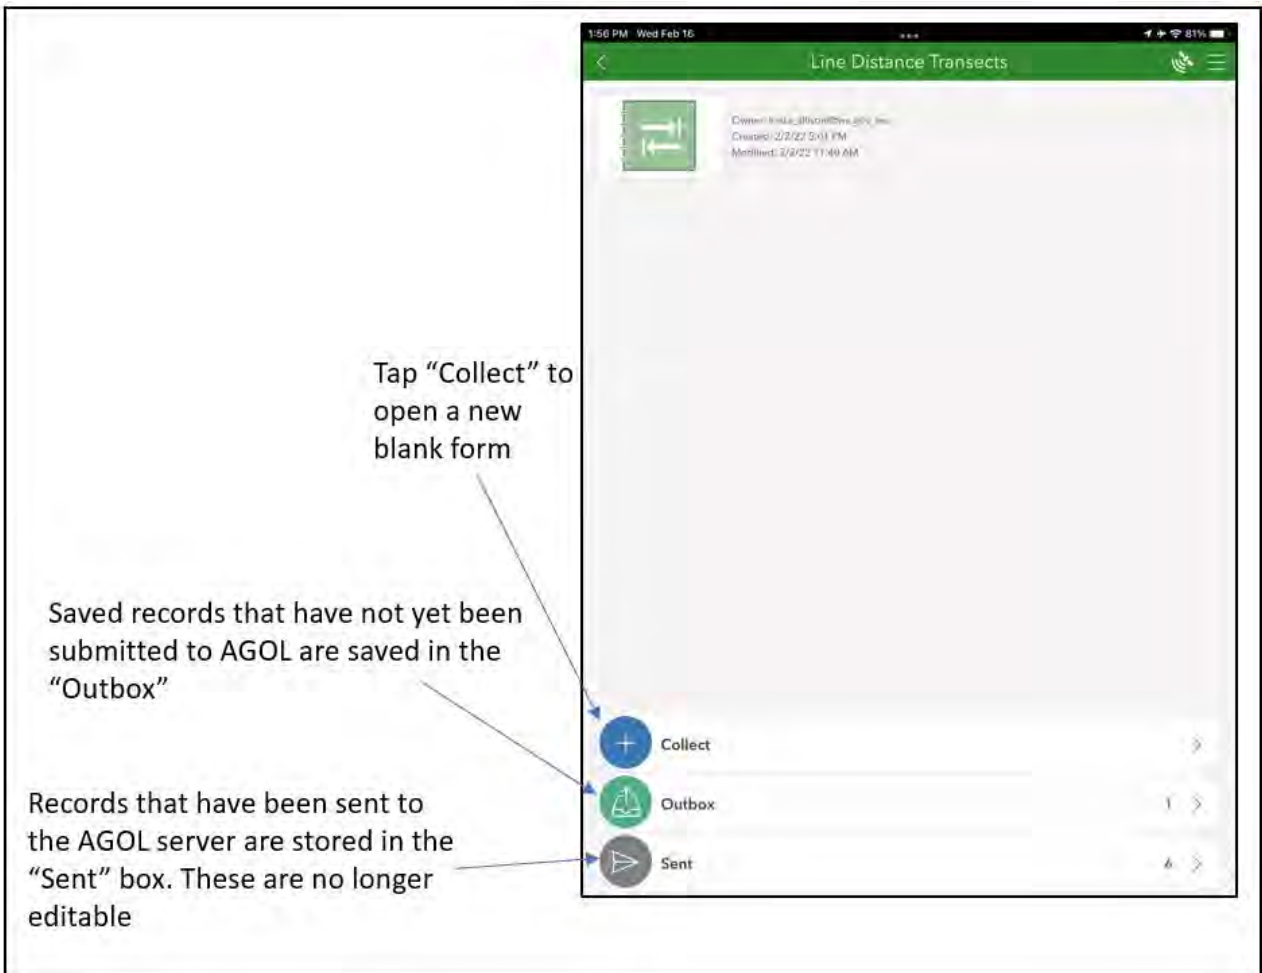
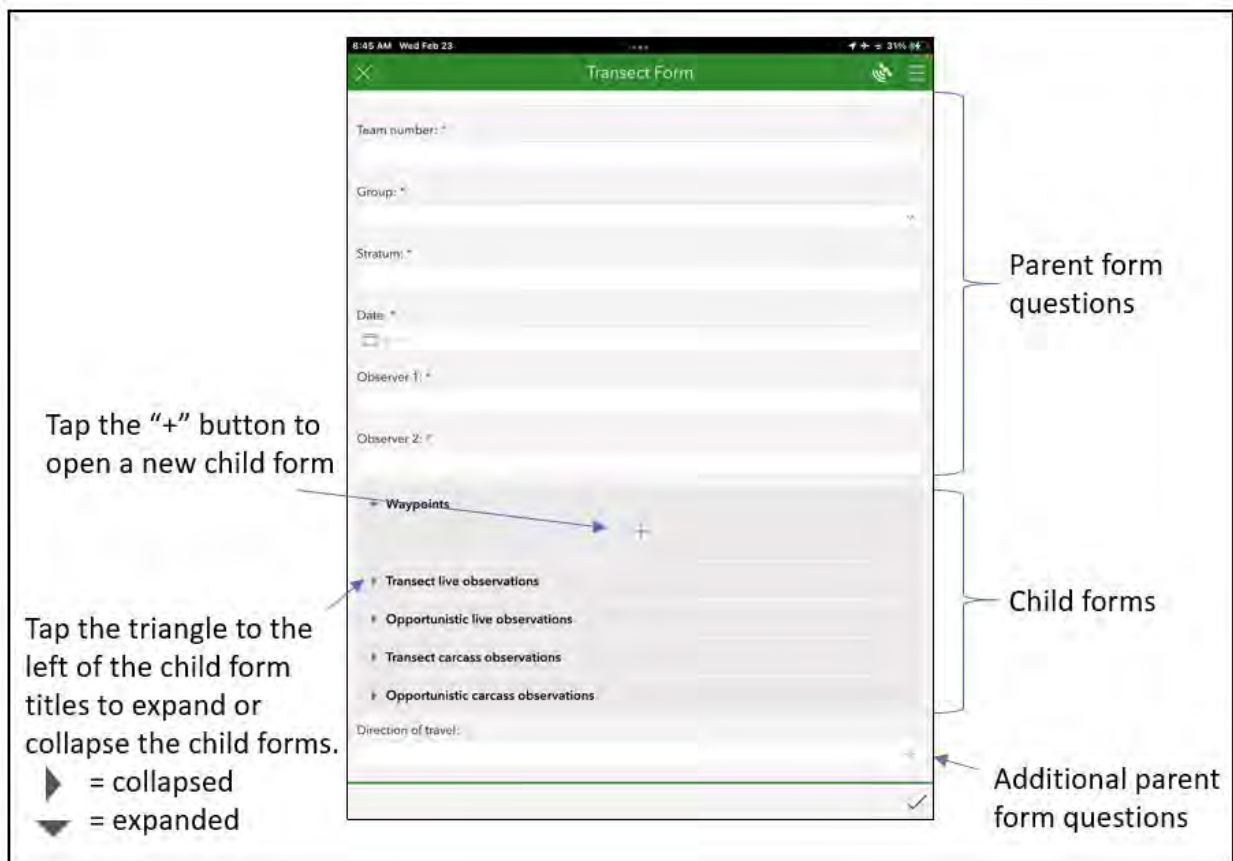
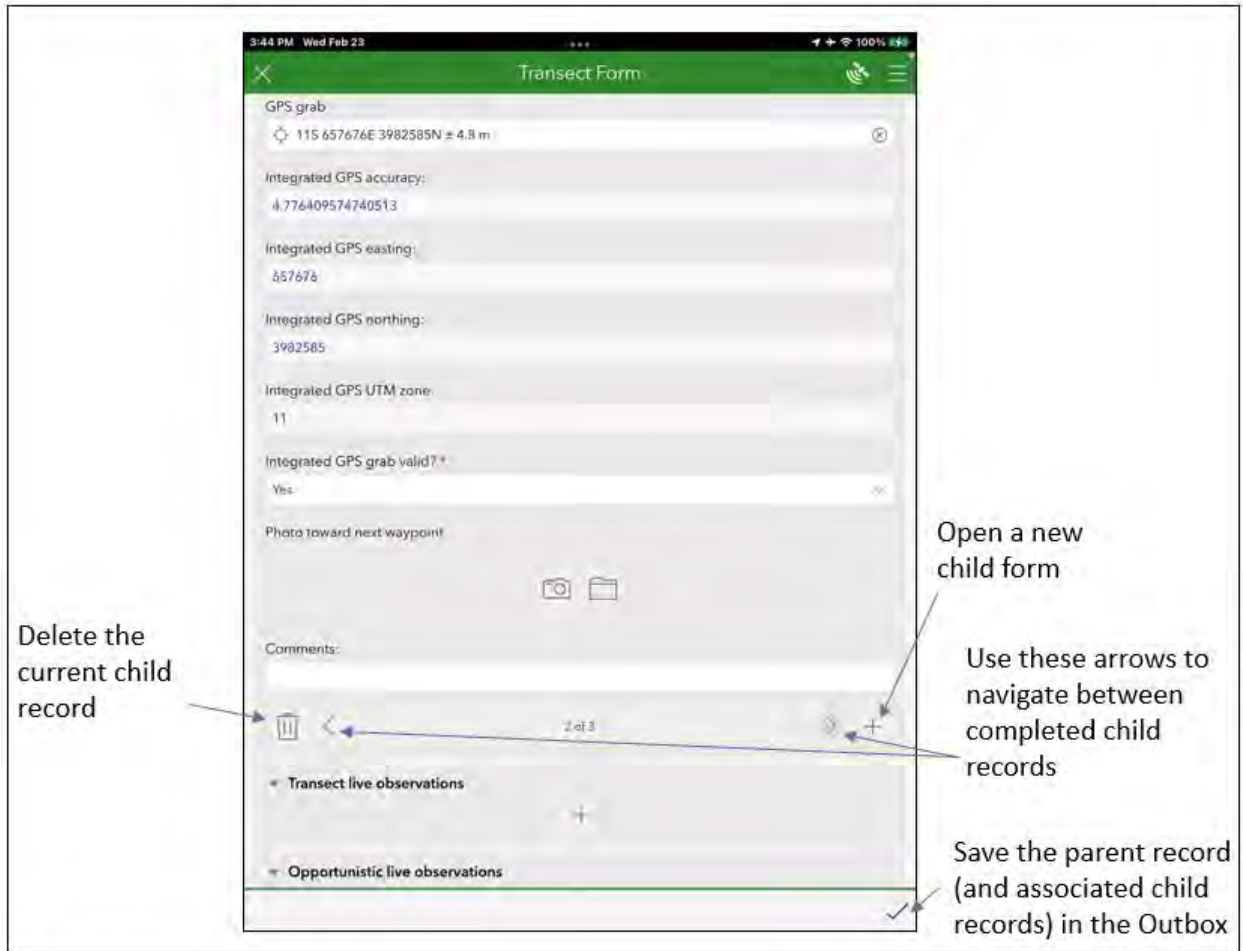

Figure 7-4
Figure 7-5
Figure 7-6
To initiate a parent form, choose it from your My Survey 123 homepage. Once you have the form's landing page tap "Collect" (Figure 7-4). The form is now open and ready for data collection.
**Purpose** - This is the parent form for the transect database (Figure 7-5). The child forms cannot be accessed until this form is opened. Its purpose is to record general information about transects, including names of the observers and condition of the transect (i.e. mountainous, encountering prohibited access, etc.). The transect record is created when team members start hiking to a transect from their "drop off" (or parking) point each morning, and is closed when team members return to the drop off point. In the case of non-standard transects, a new parent form is used for every transect segment following interruptions.
To initiate a child form for the first time, tap on the ⊕ button below the child form title in the parent form (Figure 7-5). If this icon is not visible you may need to expand the child form using the ▸ button to the left of the child form title. To create subsequent records of the same child form (e.g., the next waypoint), you will need to tap the + button at the bottom right of the previously completed child record (Figure 7-6).
Instead, tap the checkmark ✓ on the bottom right of the form to indicate that you are (at least temporarily) done with the survey (Figure 7-6). If there are invalid entries the app will circle them with a red box and text saying “Invalid” (if you missed a required
2. **Navigate among existing child records** – You can view subsequent and previous child records of the same type by tapping on the > and < symbol at the bottom of a completed child record (Figure 7-6). Objective 5 covers data review protocol in more detail.
3. **Save a transect record** – When you complete a child record and prepare to continue walking the transect it is a good idea to save the parent record in the “Outbox” (which will also save all associated child records). This forces a validity check on the data you just entered and guards against data loss in the event of an app or iPad malfunction. To save the parent record in the Outbox (including all associated child records), tap the checkmark ✓ on the bottom right of the form and choose “Save in Outbox” (Figure 7-6). A couple things to avoid:
To re-open a parent record saved in the Outbox, first open the Outbox for the parent form landing page of interest (Figure 7-4), then find the record you want to review. Tap on the record name and choose “yes” to the “Do you want to edit this survey?” question. Be sure you opened the correct transect record! Double check the date and transect number of the record you just opened to confirm it is the one you need to edit.
4. **Delete a child or parent record** – If you need to delete a child record you can do so using the trash can symbol  on the bottom left of the child form (Figure 7-6). If you need to delete an entire parent record (and all its associated child records) you can do so from the Outbox. Open the Outbox from the parent form landing page (Figure 7-4), tap on the three dots to the right of the parent record you want to delete, and then tap on the trash can symbol .
- Collapse child forms that are not in use so that they are not accidentally edited (Figure 7-5 in Objective 1). This also makes it easier to navigate the parent form.